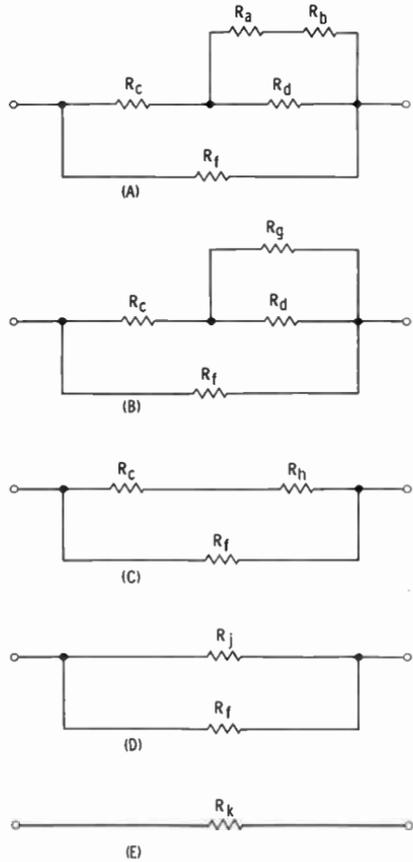

Fig. 30. A method by which a series-parallel combination of resistances may be reduced to an equivalent resistance.
Finding the total resistance value of circuit (A) in Fig. 30 can be very simple if you keep in mind that any number of resistances connected in series may be replaced by a single resistor with a value equal to the arithmetical sum of the individual resistors, or that any number of resistors in parallel can be replaced by an equivalent whose value is equal to the reciprocal of the sum of the reciprocals of the individual units.
Circuit (A) in Fig. 30 consists of resistors  $R_a$  and  $R_b$  in series, and the two also in parallel with  $R_d$ . This group is connected in series with  $R_c$  and the whole combination is again connected in parallel with  $R_f$ . The simplest way to solve a resistance combination of this type is to go through the problem step by step, combining each series and each parallel group of resistances and replacing them with their equivalent resistance.